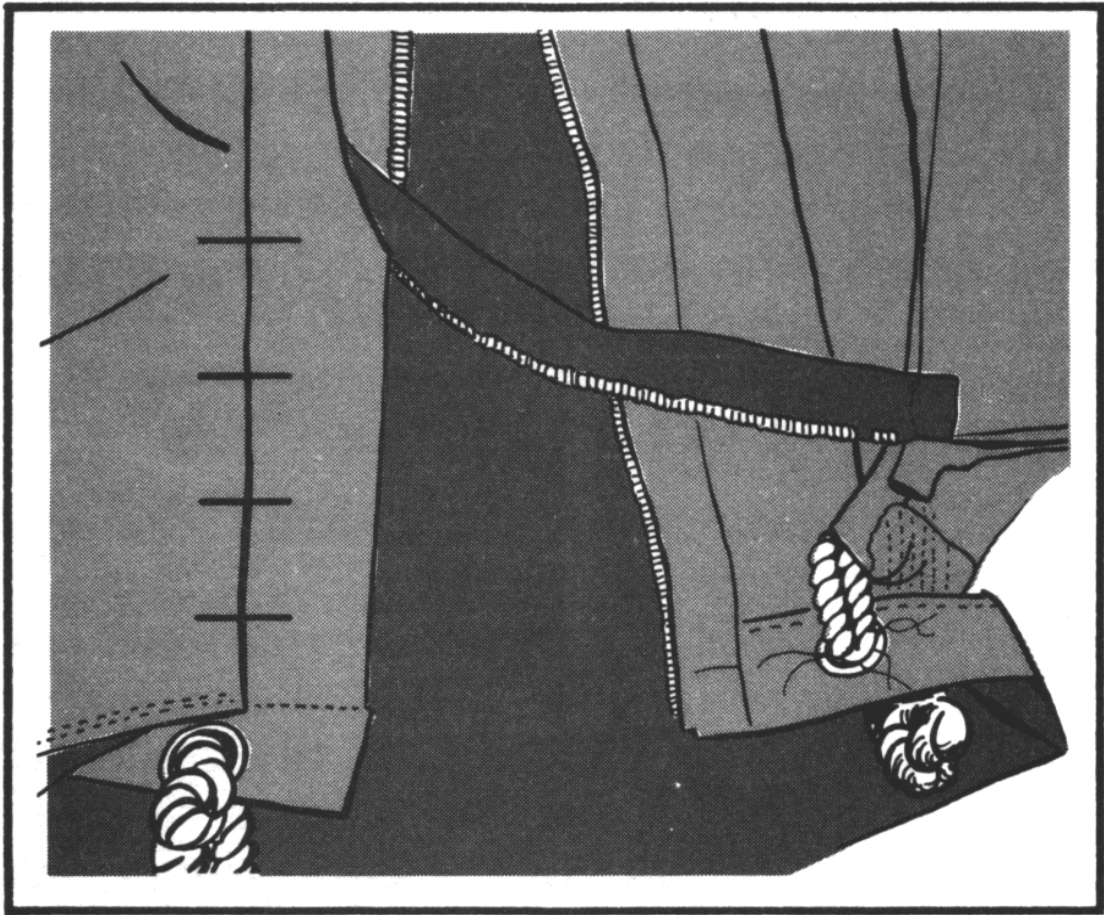

Figure 9-20. Index marks for positioning new zipper
- d. Draw several horizontal chalk marks on each side of the new zipper (Figure 9-20). Draw the lines across the zipper tapes and the canvas in the tent. Use these index marks as guides to position the new zipper.